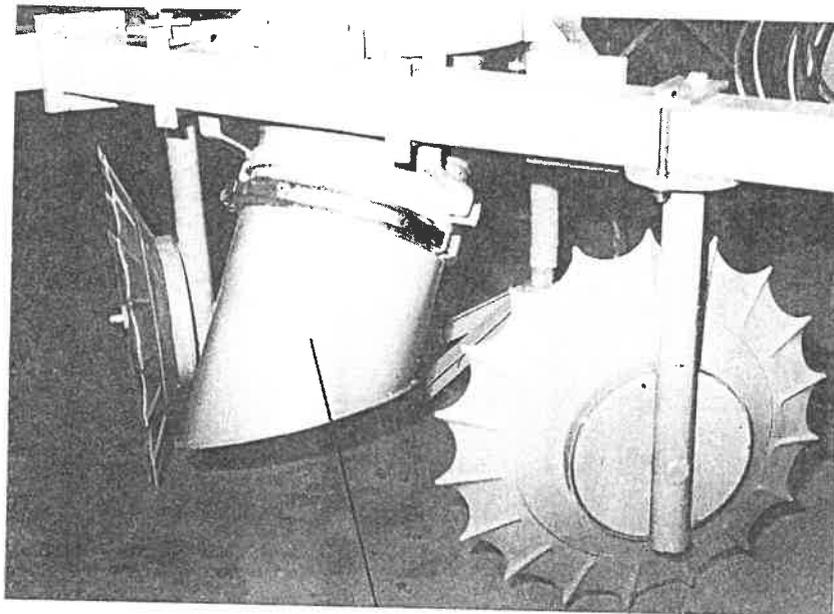
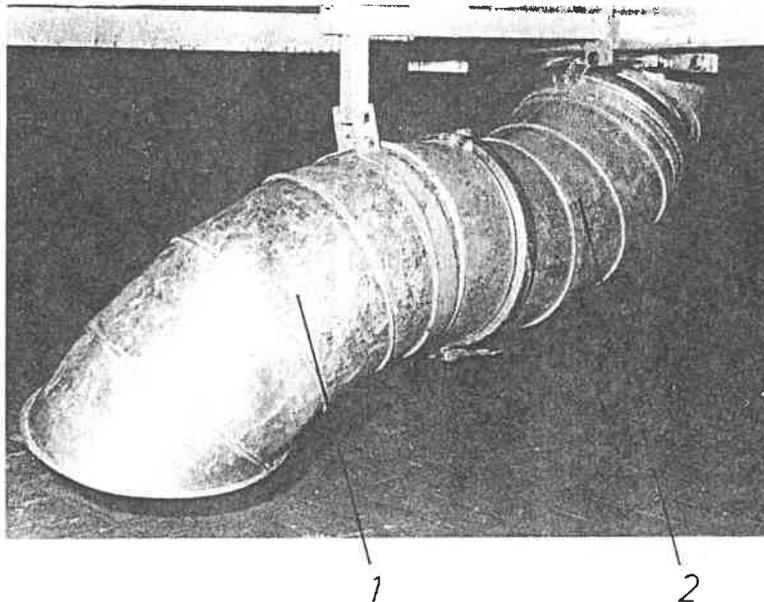

Fig. 2.5
Fig. 2.6
- 2.4. Remove the suction tube (Fig. 2.5/1) or curved suction trunk (Fig. 2.6./1+2).